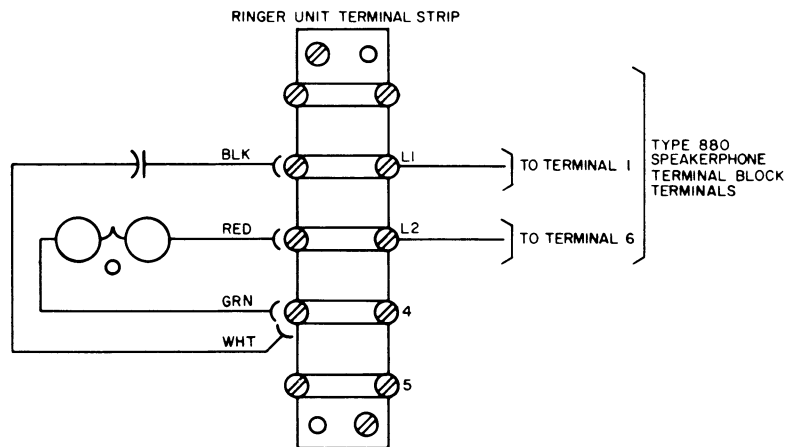

Figure 3. Type 33 ringer unit wired for bridged ringing.
2.3.1 When the Type 880 Speakerphone is supplied without the electronic type tone signal, a type 33 ringer unit may be used for ringing. The type 33 ringer unit must be ordered separately. The ringer unit is connected to the Speakerphone terminal block as shown in figures 3, 4, and 5; these figures also show the connections (in the ringer unit) to be made for the various types of ringing.